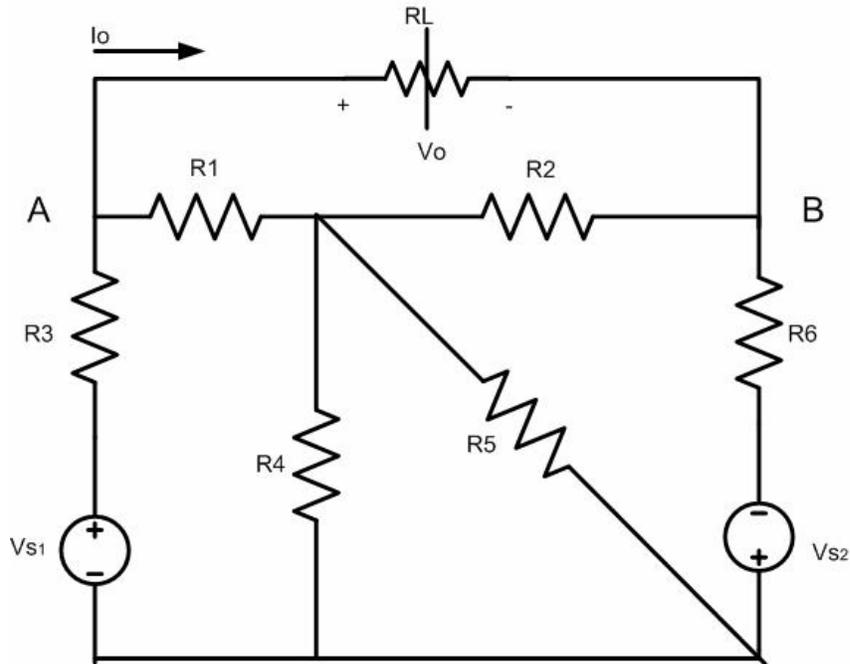

Fig. 4-6
- a. Assemble the circuit in Figure 4-6 with the component values shown in Table 4-1. ( $R_L$  is 10  $K\Omega$  potentiometer (Pot), **in this section there is no need to connect this Pot. in the circuit.**)